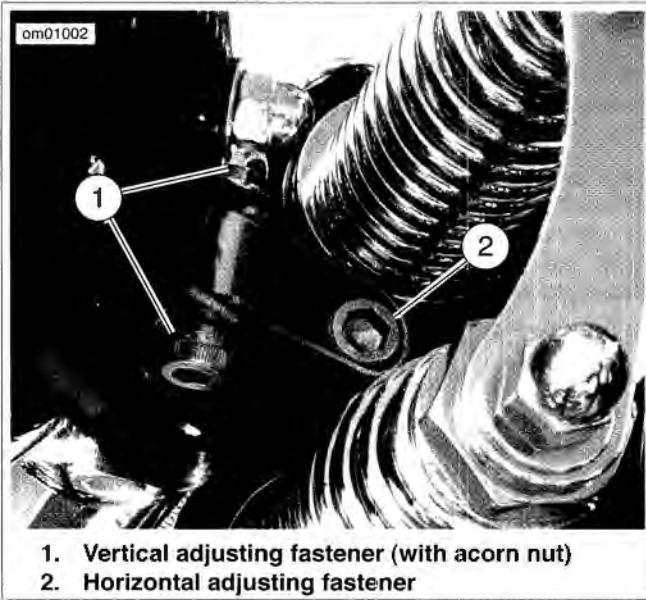
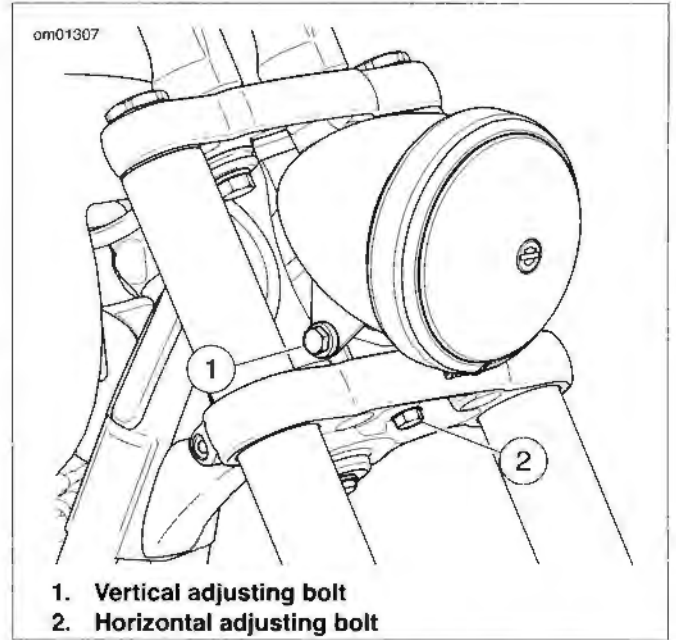

Figure 1-54. Headlamp Adjustment: FLSTSB
Figure 1-55. Headlamp Adjustment: Softail Models Except FLSTSB (typical)
1. See Figure 1-54 (FLSTSB) and Figure 1-55 (other models). Loosen horizontal adjustment fastener (2). Tilt headlamp left or right to direct light beam straight ahead.
2. Tighten horizontal adjustment fastener (2) to 30-35 ft-lbs (40.7-47.5 Nm).
3. Loosen vertical adjustment fastener (1). Tilt headlamp up or down in relationship to the horizontal line from the headlamp alignment inspection.
4. Tighten vertical adjustment fastener (1) to: